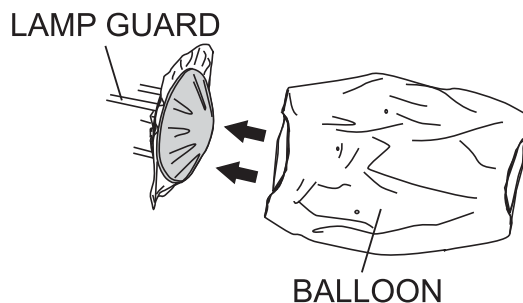

Figure 29. Removing the Balloon
3. Slide the new balloon over the top of the lamp guard as shown in Figure 29. Zip up the zipper at the bottom and top of the balloon.